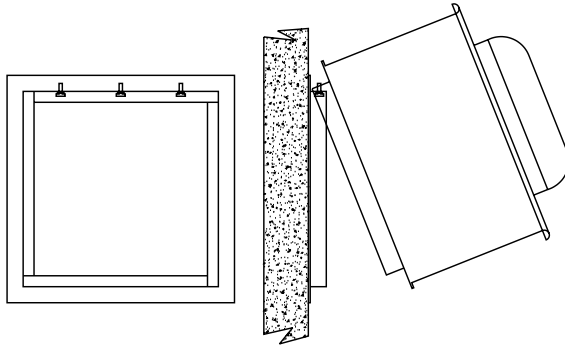

Fig. 1
- (a) **WALL MOUNT (120-245):** If wall mounted, provide an opening sufficient for enclosing the curb cap. Securely fasten to the wall through the cap. Fan breather tube should be on the side of the fan at a 90° angle from vertical. A wall mounting adapter option is available from the manufacturer. Refer to Form 613121 included with the adapter for instructions. (see figure 1)